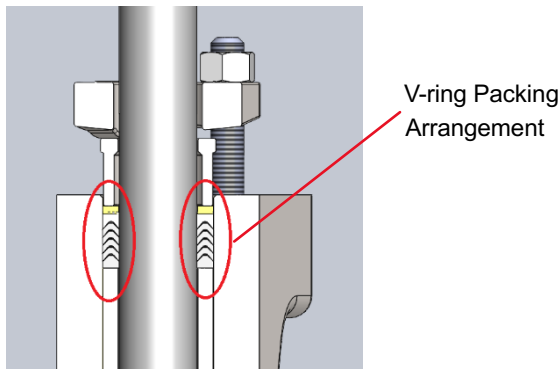

Figure 10: Packing V-ring Configuration
- CAUTION** Since the sealing on V-ring packing takes place at the feather edge as shown in Figure 10. It is important to avoid damage to that edge.